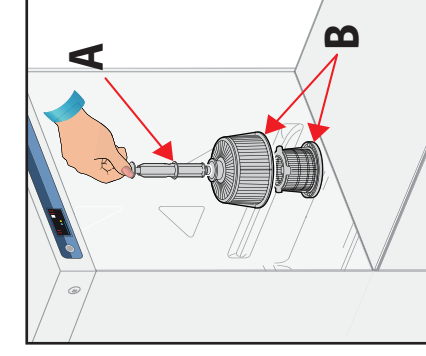

FIG. 2
2. Leave the machine switched on. Open the door and remove the OVERFLOW PIPE (A) Fig. 2
**DO NOT REMOVE THE GREY PLASTIC FILTERS (B) FIG. 2. THESE PREVENT SCRAPS OF FOOD GOING DOWN INTO THE DRAIN PUMP. Blocked drain pumps are not covered by warranty**
3. Press and hold the DRAIN PUMP button (3) for 1 second
5. Remove grey plastic PUMP FILTER (B) Fig. 2 and wash under running water and refit the filter and OVERFLOW PIPE (A) Fig. 2